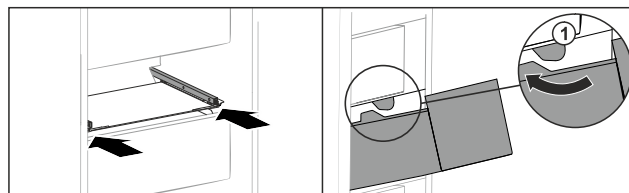

Fig. 100
- Guide drawer around the stoppers Fig. 100 (1).